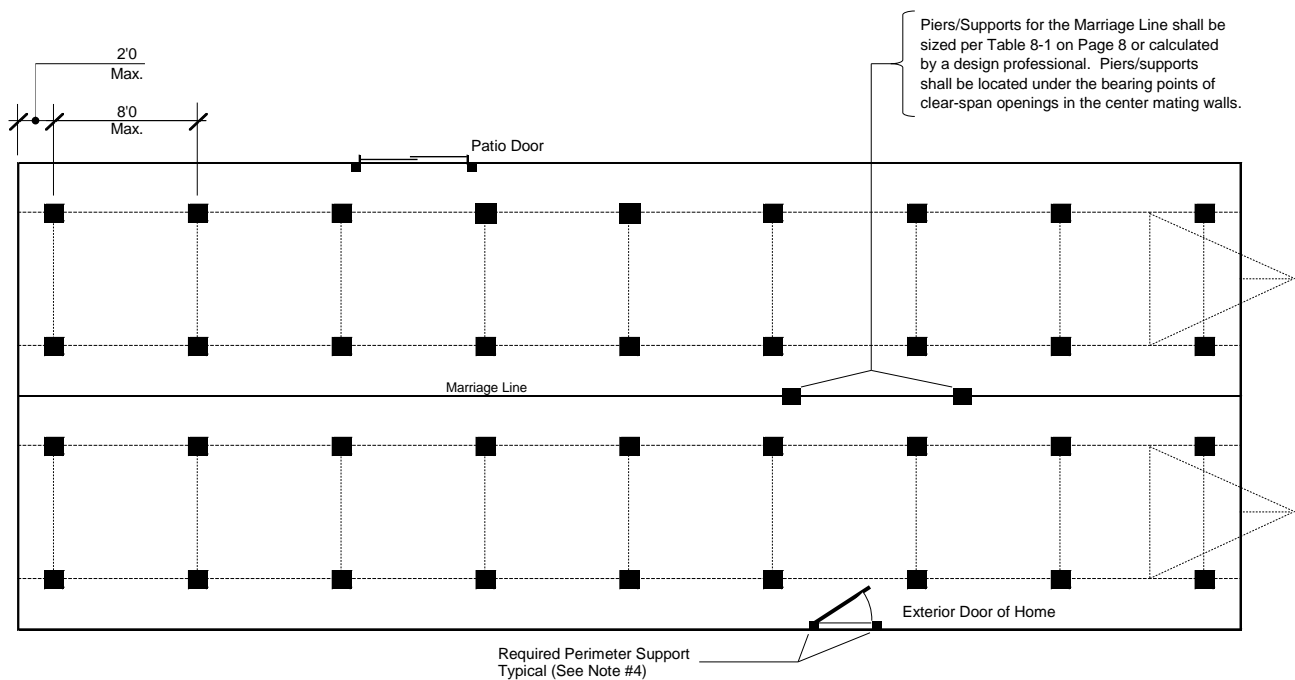

Figure 3 - Typical blocking diagram for multi-section home when manufacturer's instructions are not available
3. Marriage Line blocking shall be placed at a minimum as per Table 8-1 and Figure 3 on Page 8. The manufacturer's installation specifications take precedence.